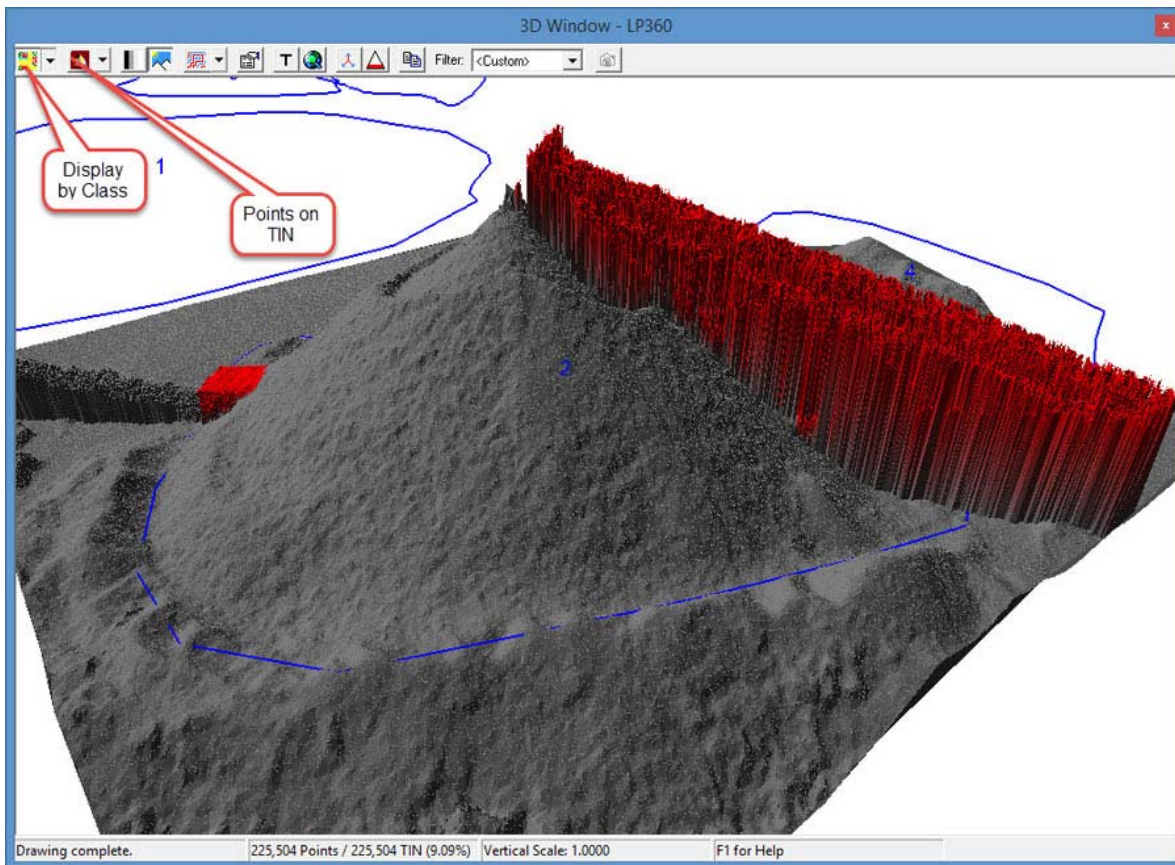

Figure 6: Configuring the 3D View
We are not quite ready to do the volume computation. First a Quality Check (QC) step is in order. LP360 has a really cool feature that is custom made for this purpose. In LP360 you can configure separate “channels” for displaying by points and by TIN. In our example, we will configure the 3D View to use the Building class for points and all other points for the TIN. First we select the stockpile area for 3D viewing, set the display mode to Classification and the rendering mode to “Points on TIN.” This configuration is depicted in Figure 6. Note that we have the conveyor points participating in the TIN.